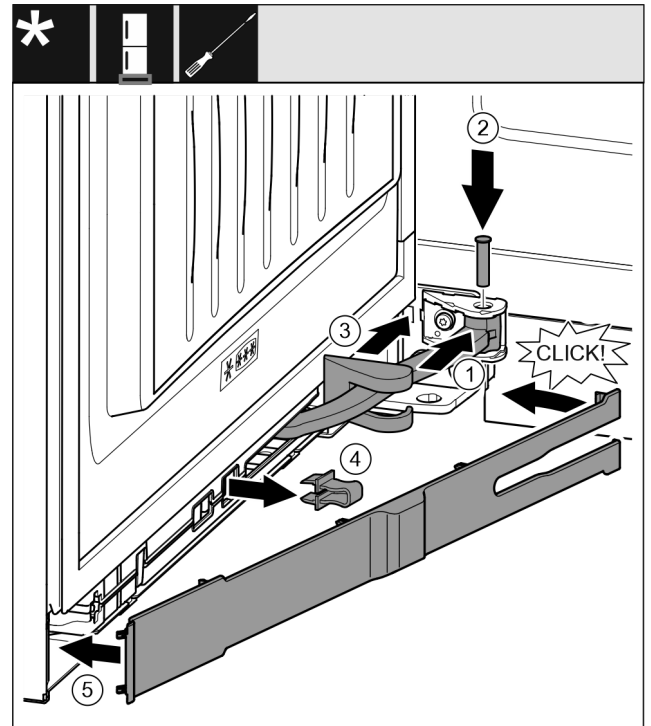

Fig. 44
- ▶ Turn the hinge in the mount. Fig. 44 (1)
- ▶ Insert the bolt with a T15 screwdriver in the mount and hinge. Make sure that the latching lug is sitting correctly in the groove. Fig. 44 (2)
- ▶ Push the bearing bracket cover along the hinge and fit it on the mount. Fig. 44 (3)
- ▶ Remove the locking device. Fig. 44 (4)
- ▶ Position the panel on the handle side and swing it in. Fig. 44 (5)